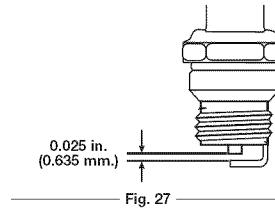

Fig. 27
3. Replace a cracked, fouled or dirty spark plug. Set the air gap at **0.025 in. (0.635 mm)** using a feeler gauge (Fig. 27).